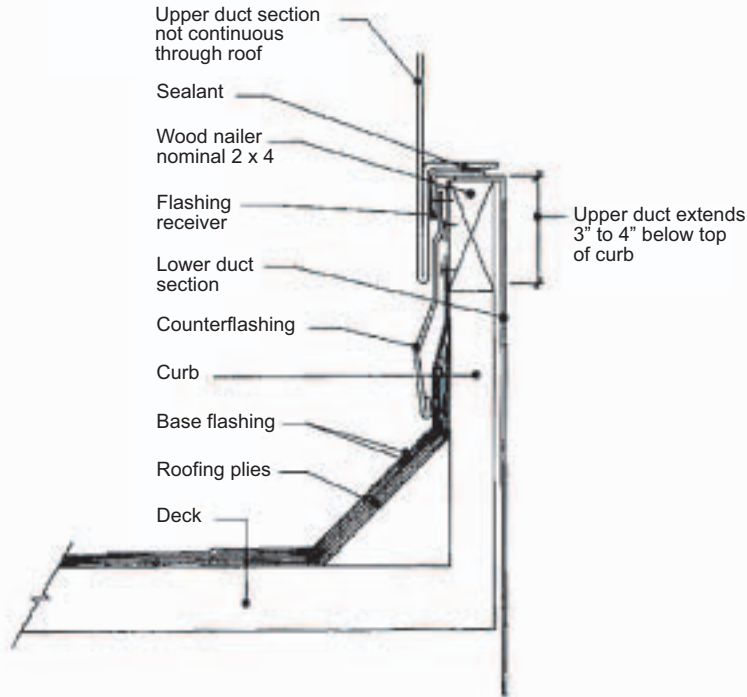

Figure 1-5
2. Join the connecting duct to the shaft or curb. Allow the connecting duct to extend between 3” to 4” below the top of the curb (Refer **Figure 1-5**) Sealant like gasket is placed between the duct and curb, and mastic are applied on all the joints to ensure water tight connection.